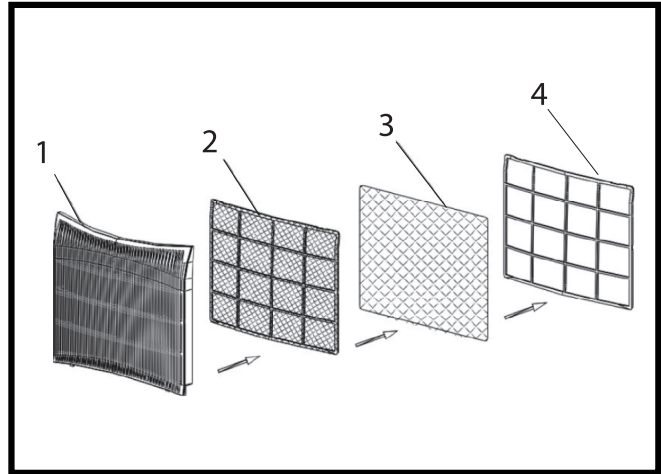

Fig. 4
► Assembly of the filters FIG. 4